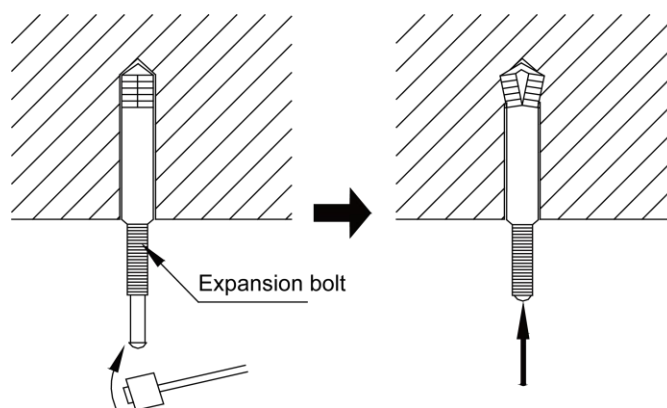

Fig. 4.11
2) Insert M10 expansion bolt into hole, and then set the iron nail into bolt. As shown in fig. 4.11, and then remove the paper pattern.